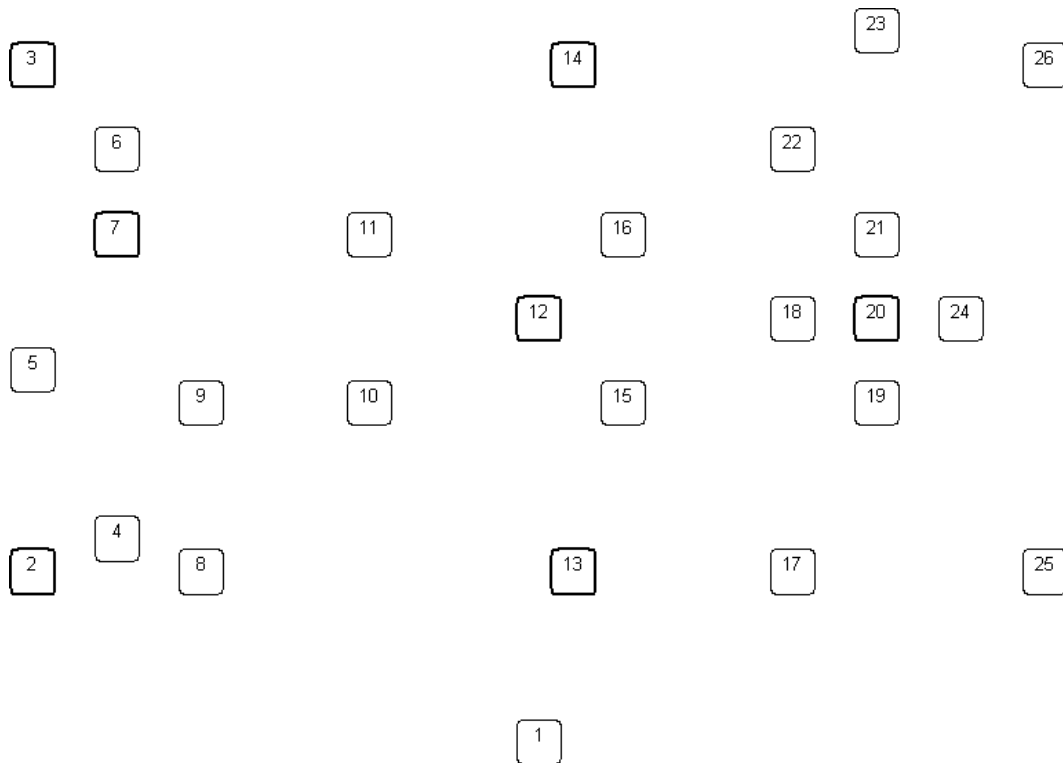

Figure 3: The appearance of a metallic plate with 25 holes to be drilled
- Look at Figure 3 and suggest (manually) a reasonably good TSP tour for the depicted nodes. Write down the sequence of nodes in Table 1 (for Task **1a**).